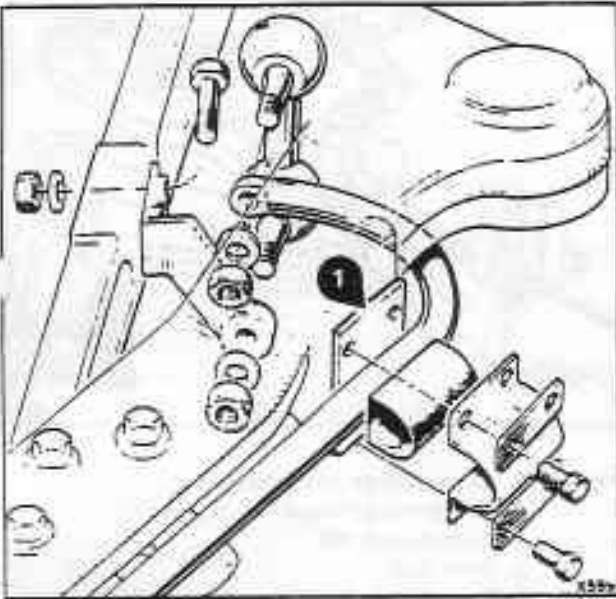

Fig. H4-7 Front stabilizer components
4. Remove the brackets and stabilizer bar. Collect any packing from between the rubber mount and sub-frame (see fig. H4-7).